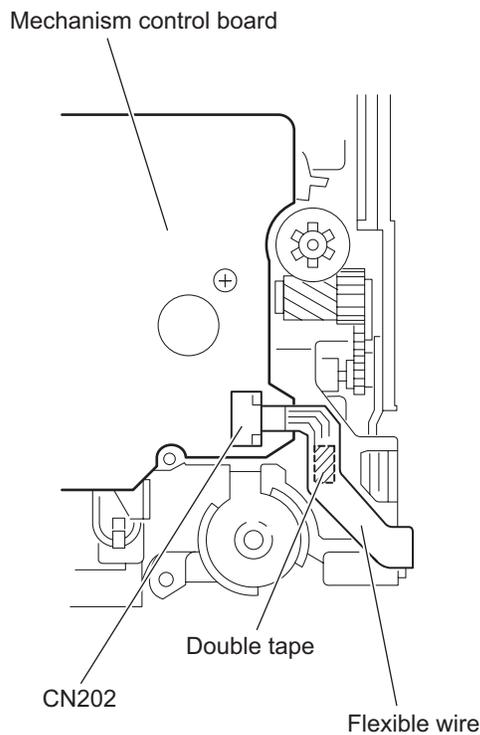

Fig.10
3.2.6 Removing the front unit (See Fig.10 to 12)
- (1) Disconnect the flexible wire from connector CN202 on the mechanism control board at the bottom of the body. (See Fig.10.)
When reassembling, attach the flexible wire extending from the switch board using the double tape. (See Figs.10 and 12.)